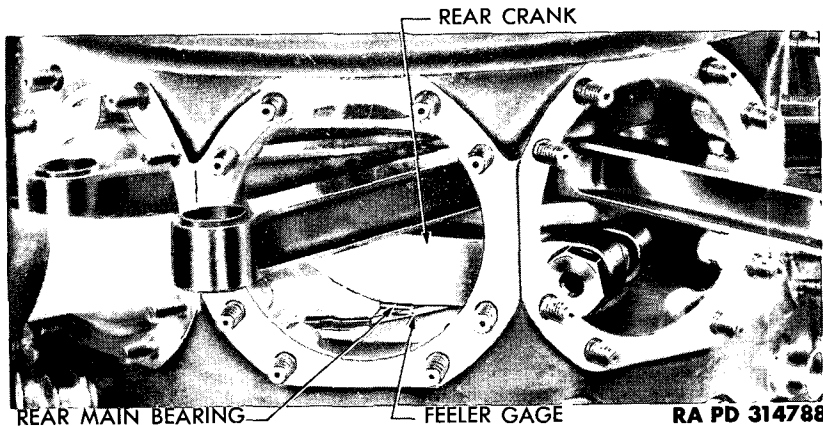

Figure 231 – Checking Clearance Between Crankshaft and Rear Main Bearing Using Gage 41-G-400
p. Check Crankshaft End Clearance. Measure crankshaft clearance between rear crank and edge of rear main bearing with feeler gage (fig. 231). If clearance is less than 0.025 inch, disassemble front crankcase section, and grind off one end of thrust bearing spacer. If clearance is more than 0.045 inch, disassemble front crankcase section, and replace thrust bearing spacer. Reassemble front crankcase section, and recheck crankshaft clearance to make sure it falls between allowable limits. Secure attaching nuts with lock wire in groups of two, two, and three. Install split bronze cone on end of crankshaft.